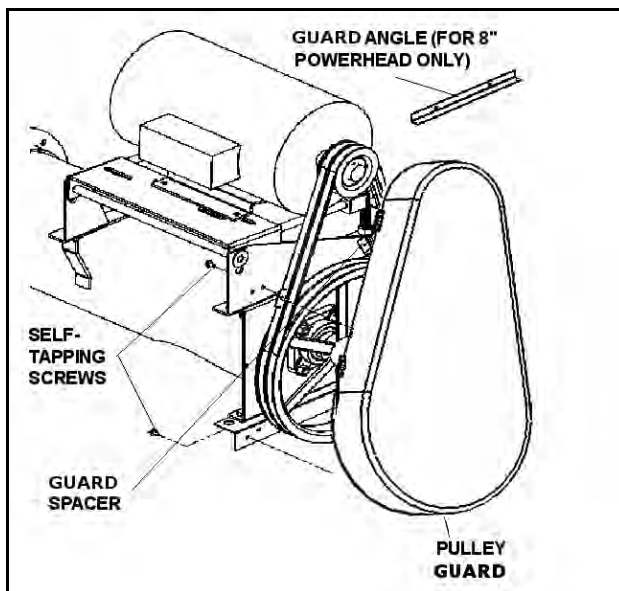

Figure 3.8
5. Assemble the adjustable three-piece pulley guard with four 1/4" x 1/2" bolts and washer locknuts (see Figure 3.8).